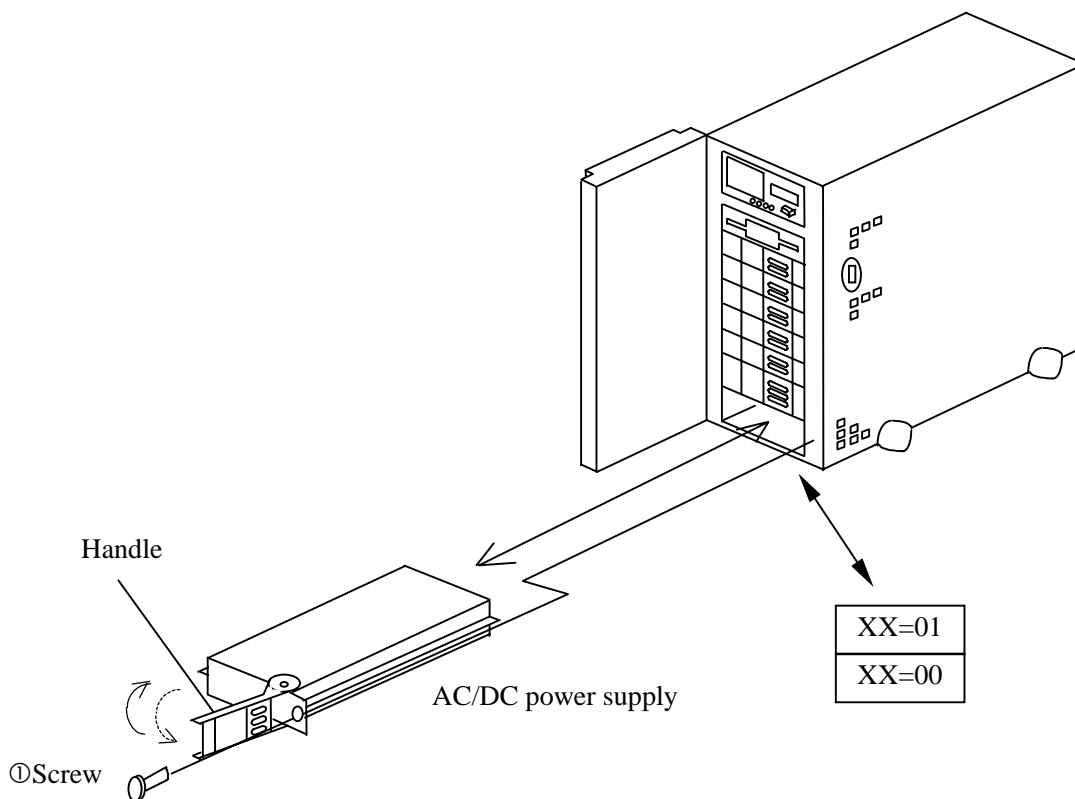

Figure 6.1 Replacement of the AC/DC Power Supply
6. Replacing the AC/DC Power Supply (See Figure 6.1~6.3)
1. Turn off the subsystem following the power-off procedure explained in 2.1 (1). (Be sure to read and understand the procedure because the power is turned off improperly, user data will be destroyed. Make sure that ALARM/WARNING LED does not come on.)
3. Loosen the screw ①. (See Figure 6.1)